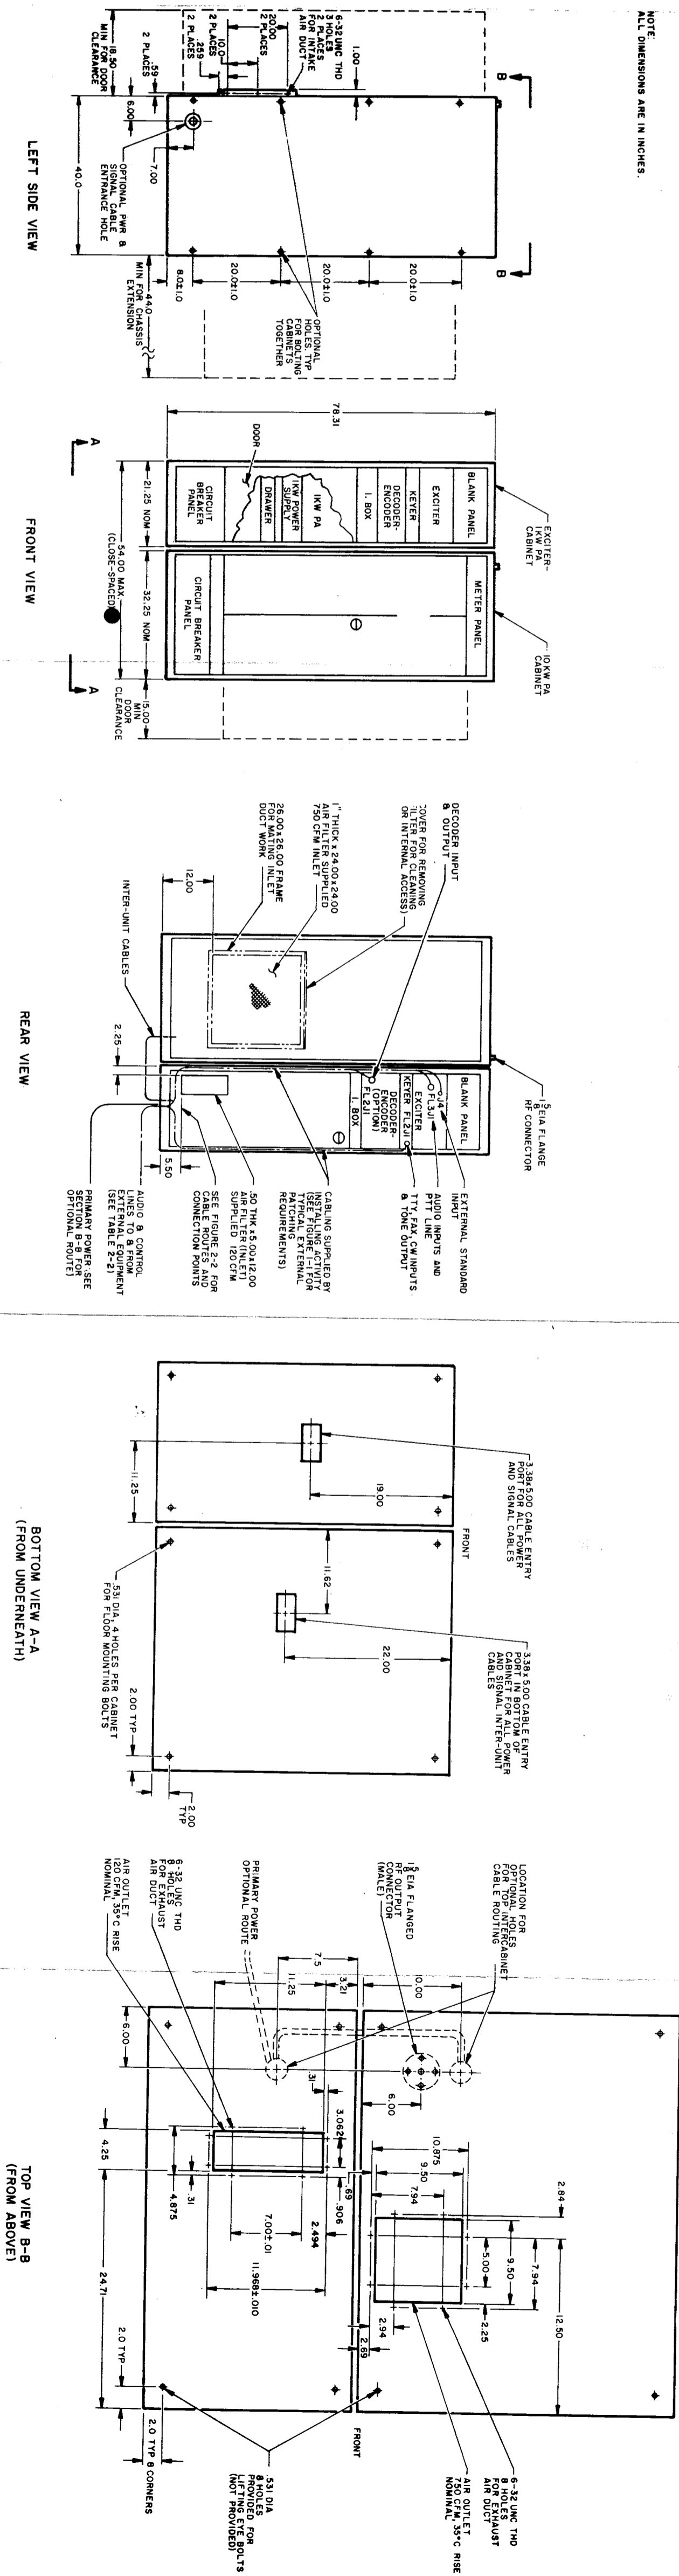
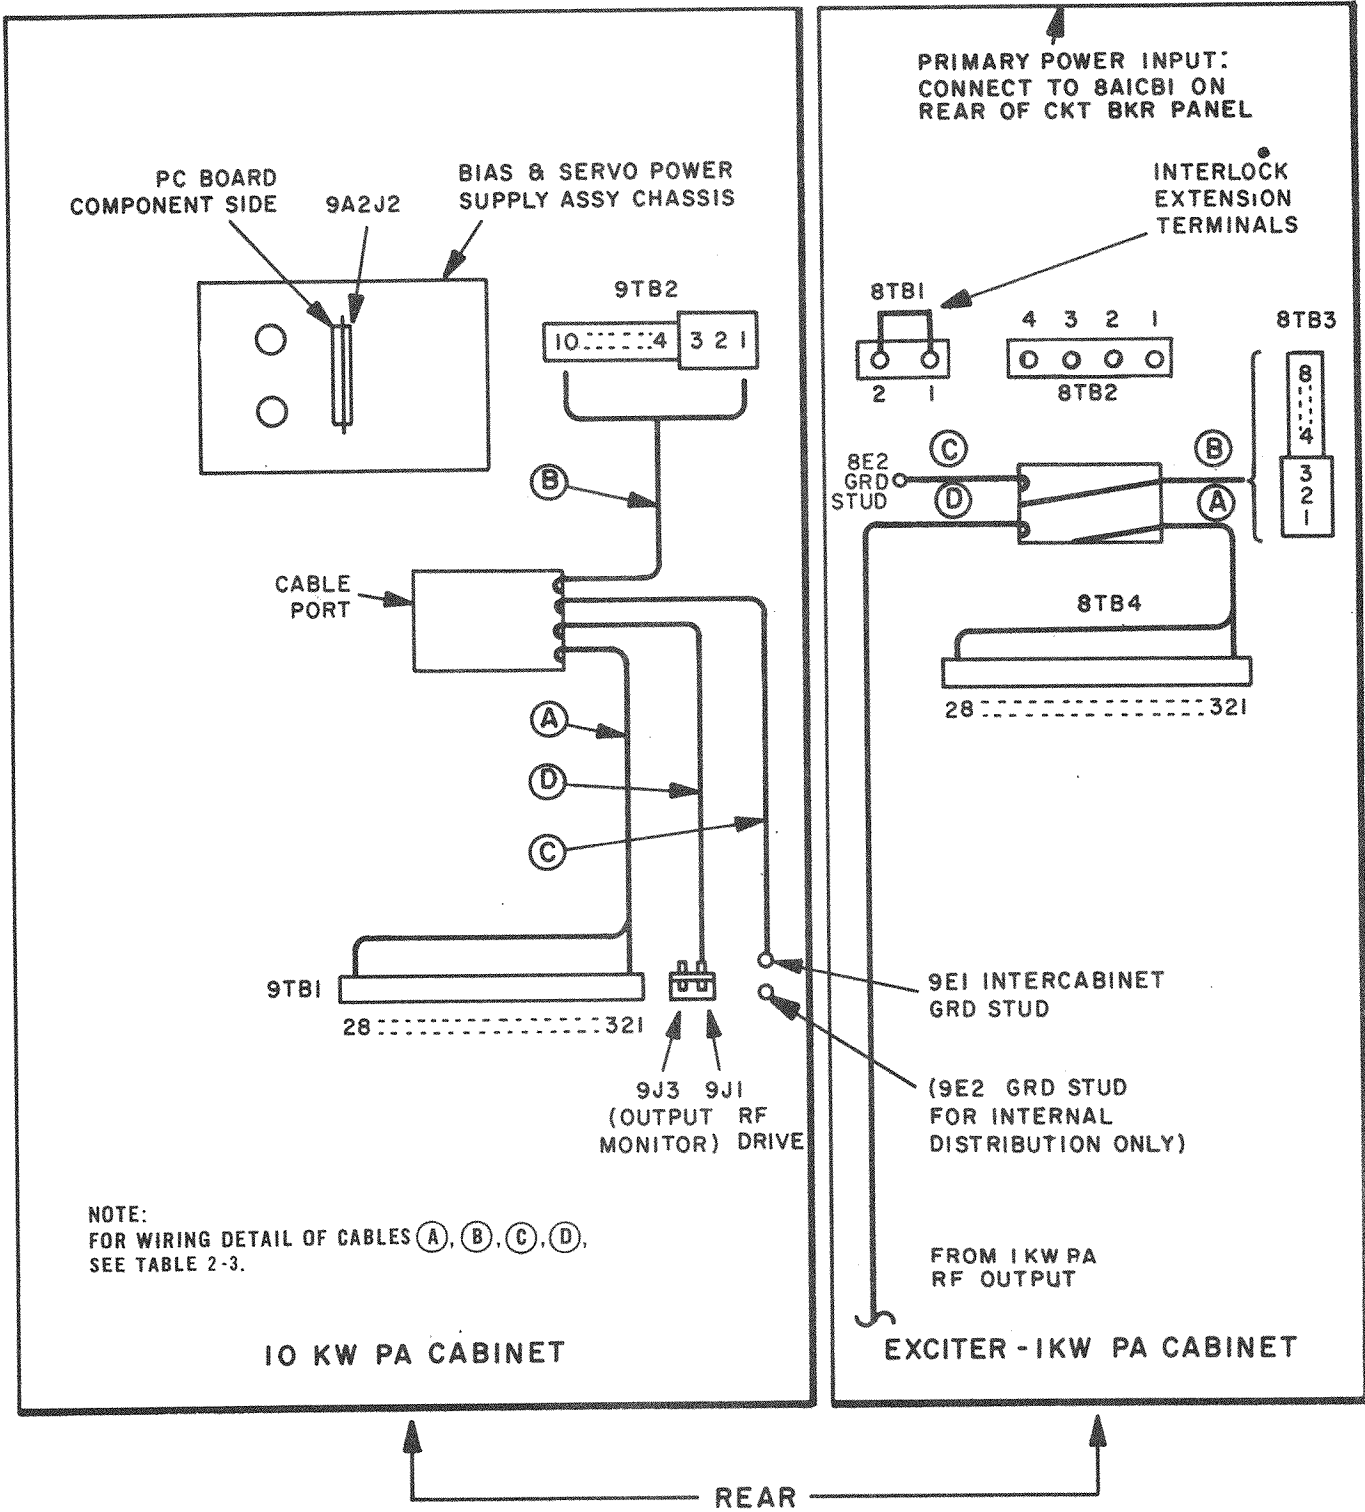
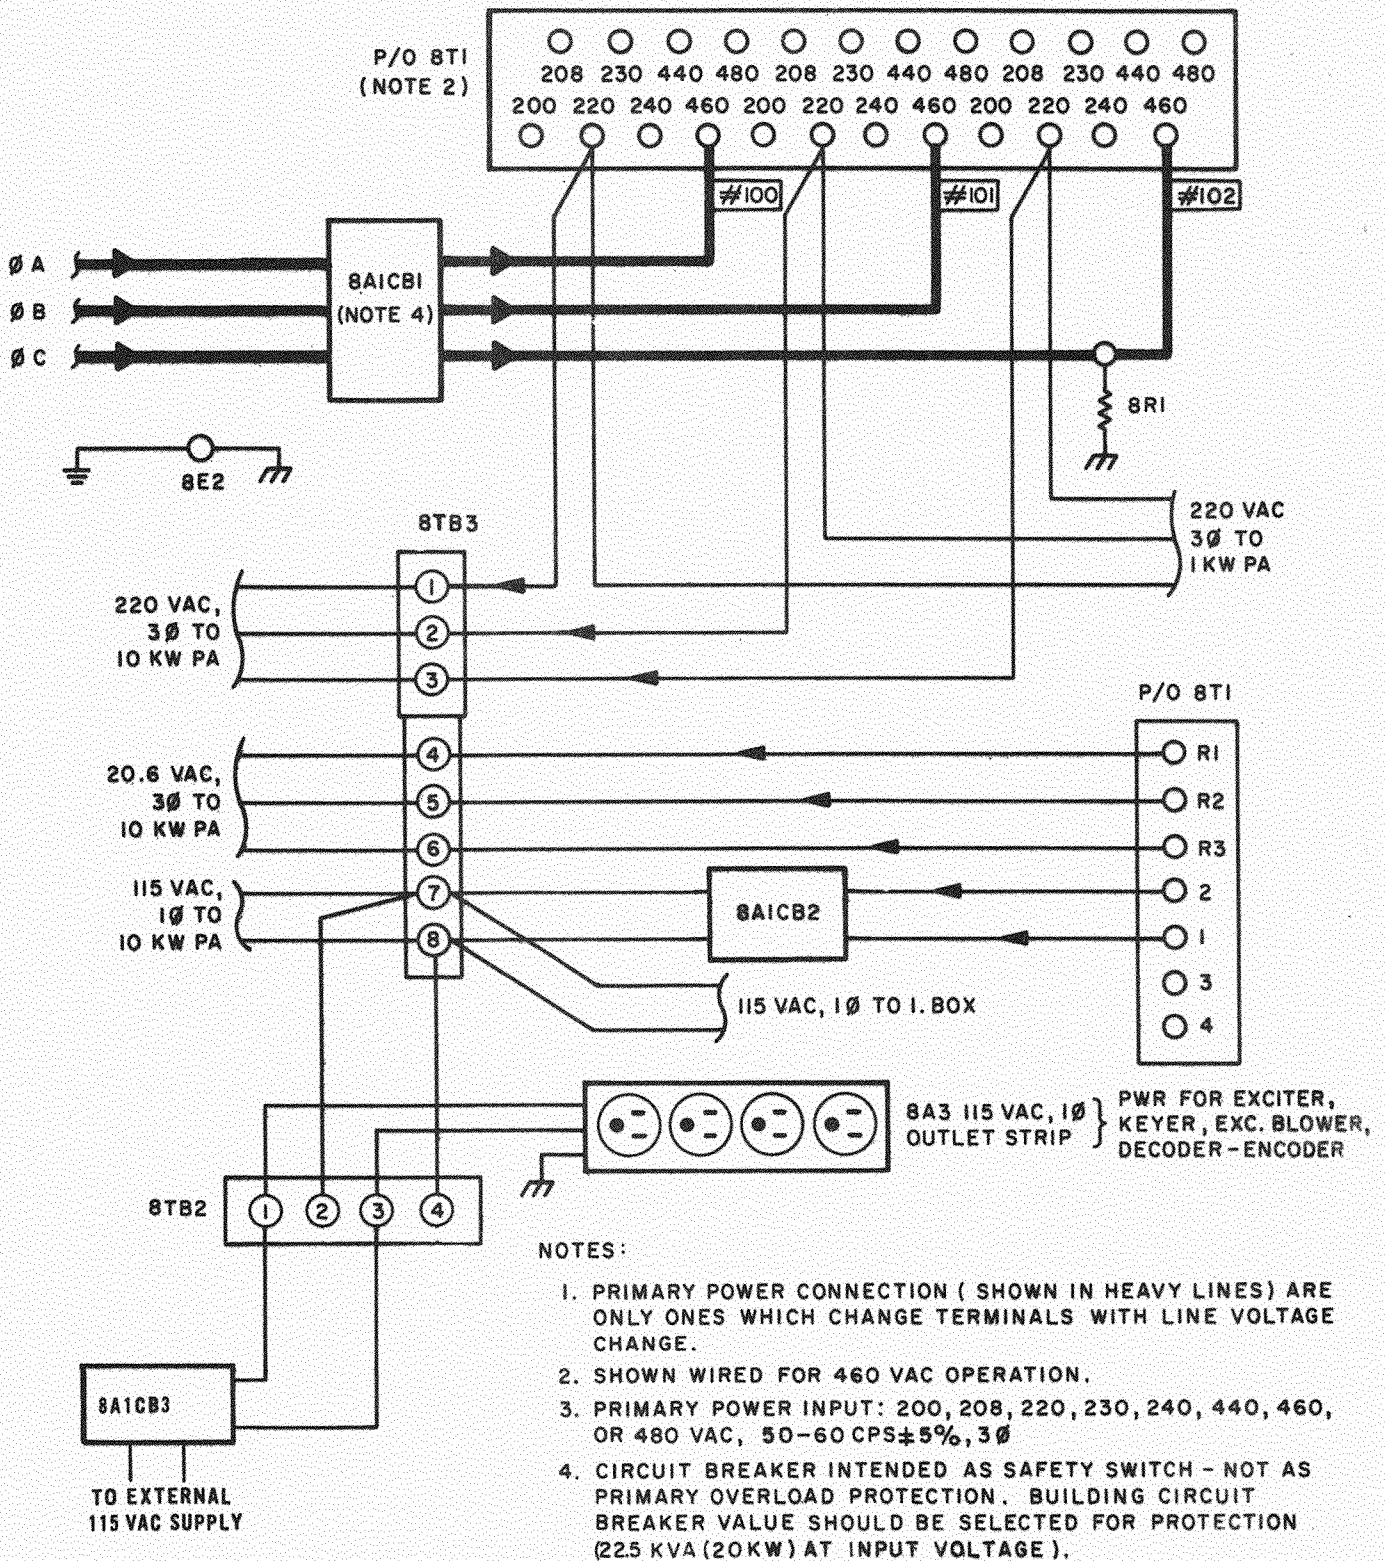

Figure 2-1. Radio Transmitting Set
FIGURE 2-2. Exciter-1 KW PA Cabinet to 10 KW PA Cabinet, Interconnecting Cable Termination Points
Figure 2-3. Primary Power Distribution
2-10. Figure 2-1 shows dimensions of importance in installing the cabinets.
upon which the Exciter-1 KW PA cabinet and the 10 KW PA cabinet are to be set by providing eight holes (per figure 2-1) for 0.5 inch O.D. lag bolts (not supplied) used to secure the cabinets. Ensure that base openings for cable routing will match the holes provided in the floor or platform. Set the cabinet in place and bolt it down. The cabinets may be bolted together, if desired, as follows. Place the two units together and block them to the desired relative positions. Match drill 0.531 inch diameter holes in the frames at 8 locations (figure 2-1). Take care to catch chips. Bolt the cabinets together with 1/2 inch hardware.
Optionally, ports may be cut in the sides or tops of the cabinets (as shown in figure 2-1) for primary power and intercabinet cables.
2-24. After routing and securing the cables and pairs as required, individual connections should be made by cutting wires to final length and attaching the required connectors. The ground cable is connected to the cabinet, using the 1/4-20 x 1/2 inch bolt (8E2, figure 2-2) provided in the staked-in nut at the lower left-rear corner of the Exciter-1 KW PA cabinet base plate.
2-25. The AN/FRT-84(V), as shipped, provides a jumper between the interlock extension terminals on 8TB1 (see figure 2-2). If an external interlock switch is to be used to provide external shutdown of power to the various units of the AN/FRT-84(V), the jumper between terminals 1 and 2 must be removed and the pair of incoming wires from the external (normally-closed) interlock extension switch must be connected to these terminals.
Do not interchange connections at 9J1 and 9J3 (figure 2-2) as damage will result:
in table 2-3 and shown in figure 2-2. An interconnecting cable has been supplied preconnected at the Exciter-1 KW PA cabinet, with sufficient length for bottom or side cable routing. Mating connectors are already installed on the cables. Refer to figure 2-1, and fabricate a similar cable if top routing of interconnecting cable is desired.
2-30. Primary power connections should be made from circuit breaker 8A1CB1 (figure 2-2) behind the circuit breaker panel of the Exciter-1 KW PA cabinet directly to the building power distribution panel circuit breaker (figure 2-3). Primary power requirements are 22.5 KVA (20K 200, 208, 220, 230, 240, 440, 460, or 480 VAC line-to-line, 50-60 CPS $\pm 5\%$, 3-phase. Select the building power panel circuit breaker value to protect properly against overloads; do not depend upon the circuit breaker value to protect properly against overloads; do not depend upon the circuit breaker on the bottom of the Exciter-1 KW PA cabinet for exclusive protection. The circuit breaker on the bottom panel of the Exciter-1 KW PA cabinet is intended primarily as a readily available emergency shutoff. A neutral power cable wire (if used) can be connected to ground stud 8E2 (in addition to a good RF earth ground).
2-31. The heavy lines in figure 2-3 represent wiring from the output terminals of circuit breaker 8A1CB1 to individual taps on the rear of autotransformer 8T1. These three wires (and no others) should be reconnected at the autotransformer as necessary to adjacent taps which correspond closest to the actual measured line to line voltage. Good equipment performance requires that the line voltage be maintained within 5 percent of the nominal voltage for which the selected taps are intended. Phasing of the lines should be as noted in figure 2-3; however, the phasing will be checked when installation is completed.
2-32. As shown in figure 2-3, 115VAC single phase power is normally supplied from a secondary winding on the autotransformer to terminals 2 and 4 of terminal board 8TB2 (bottom of Exciter-1KW cabinet). An external source of 115VAC 60CPS power is brought in through 8A1CB3 and connected to terminals 1 and 3 of 8TB2 for application to outlet strip 8A3 which is a source of operating power for the Exciter and the Exciter's blower and, if installed, for the Keyer and Decoder-Encoder units.
2-34. A standard 1-5/8 inch EIA (male) flange fitting is provided at the top of the 10 KW PA cabinet (figure 2-1) for connection of the RF output to a 50 ohm unbalanced antenna system. A suitable connector should be obtained to mate with this connector and be compatible with the cable to be used.
2-36. Input and exhaust air ducts for the 10 KW PA cabinet may be required, depending on the particular installation. Ducts must be terminated at the cabinet with flanges to mate with air ports shown in figure 2-1. Mounting screws should be selected to be compatible with the mounting holes shown.
b. Locate PC card edge connector 9A2J2 on Bias and Servo Power Supply Assembly 9A2 (figure 2-2).
- f. Check primary power connections and line voltage tap connections in Exciter-1 KW PA cabinet bottom (figure 2-3) for proper connections and tightness.